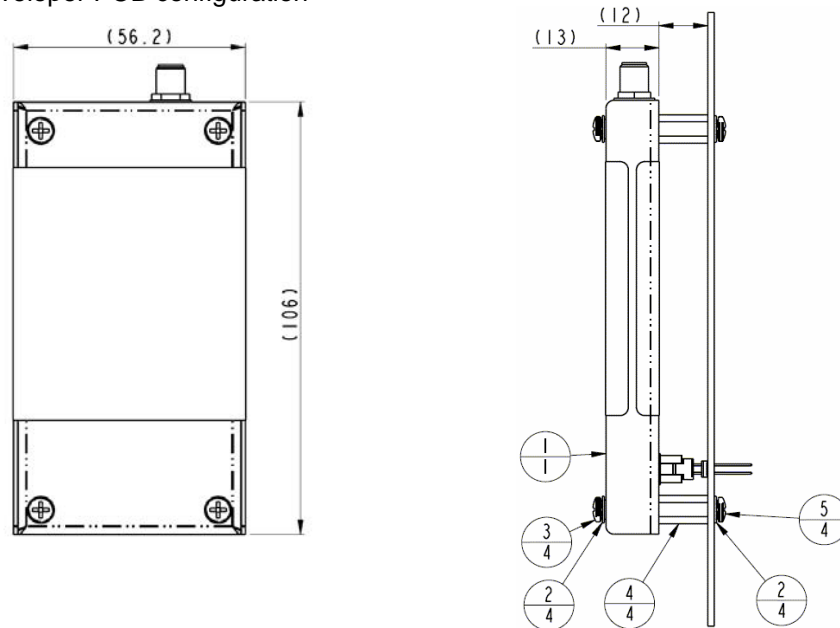

Figure 4: Assembly Item Number Identification.
[Note: Item Numbers in Figure 4 are described in Table 3.]
Table 3: Item Number Description for Figure 4
1. Item 1 is a generic, developer provided PCB design and shown for illustrative purposes. This item is the same as Item 6 in Figure 4.